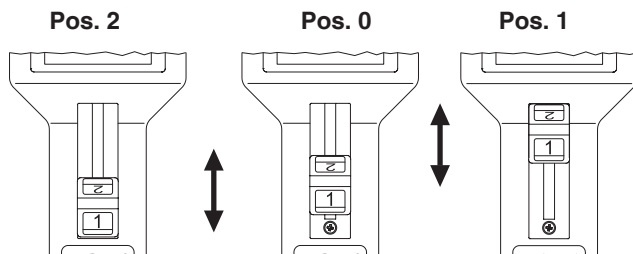

fig. 3.4
**If you rotate the thumbwheel while the thumbpiece is in position 2 (measuring position fig 3.4), the reading on the display will be updated, but the value will not be used by the instrument to determine the tension – false measurement!**